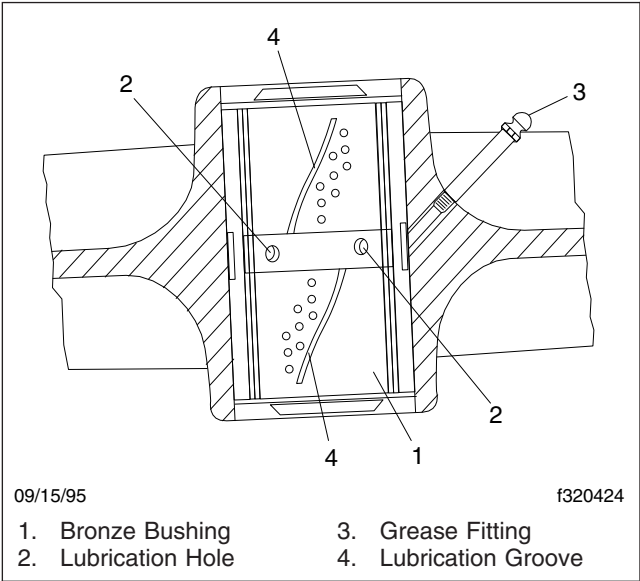

Fig. 9, Hendrickson RT2 and RTE2 Series Bushing Lubrication
3. Use a multipurpose chassis grease and lubricate the bronze, ball-indented bushings in the spring eyes at the grease fitting; see Fig. 9. Continue to lubricate until grease exits both ends of the bushing. If the pin will not accept lubricant, remove the pin and clean the lubrication channels where lubricant may have hardened. Lower the vehicle and remove the safety stands.